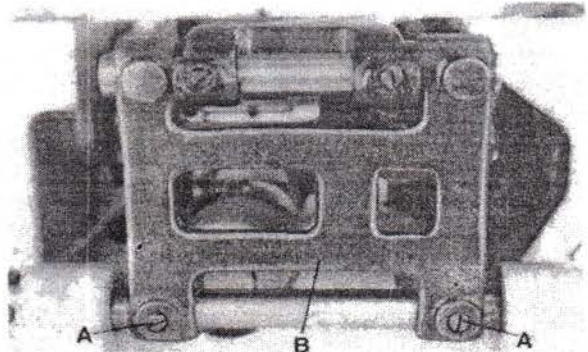

Fig.7
After loosening screws (A, Fig. 7) rear in the feed rocker (B), the feed bar with feed dog can be moved laterally to center the feed dog in the throat plate slots, if required. Retighten screws (A).